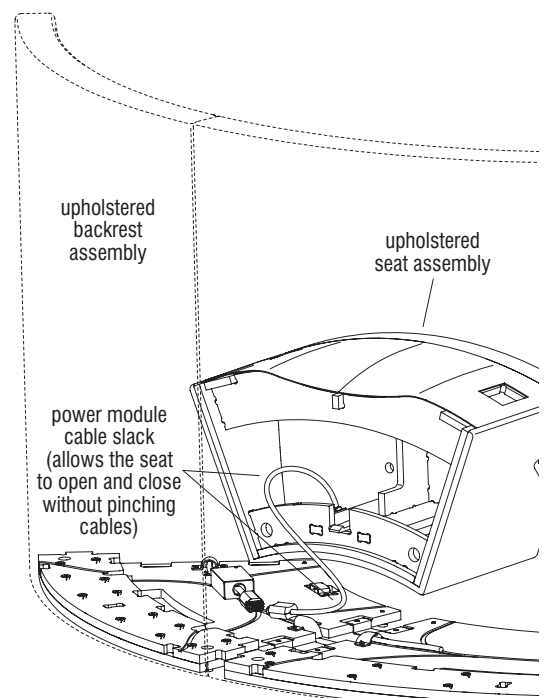

Figure 3
1. When routing power module cables along the cable paths, some slack in the cable along with a strain relief clip will be required to allow the seat to open and the cable to rest without being pinched when the seat is re-installed back onto the seat base (Figure 3). Reference "Strain Relief Clips" instructions on this page to install clips for the power module cable slack.